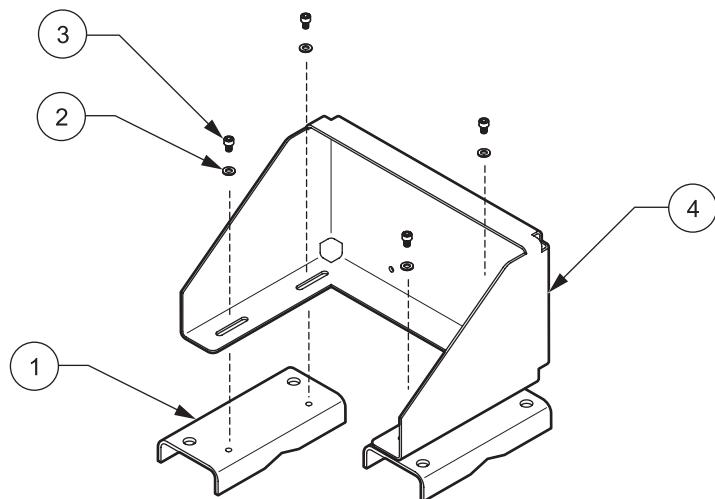

Figure 6 Installation of the U profile on the angle plate
1. Loosely mount two U profiles to the angle plate using two M5 hex socket head screws and spring washers (see Figure 6 on page 8).